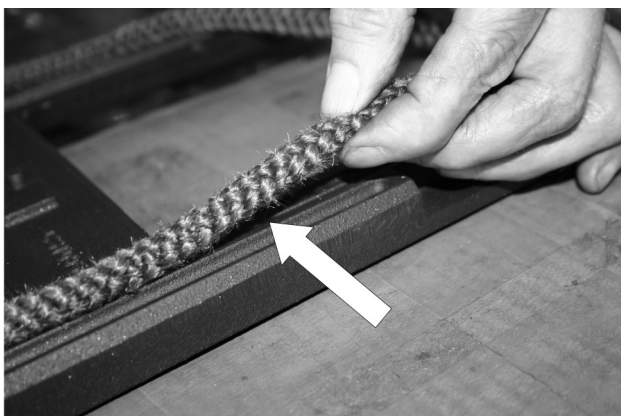

Fig. 8. Rope Replacement
- Press the rope gasket into the channel on the rear of the door casting, following the same layout as the old rope seal. See Fig. 8.
Note: Images fig 8. & 9. for reference only